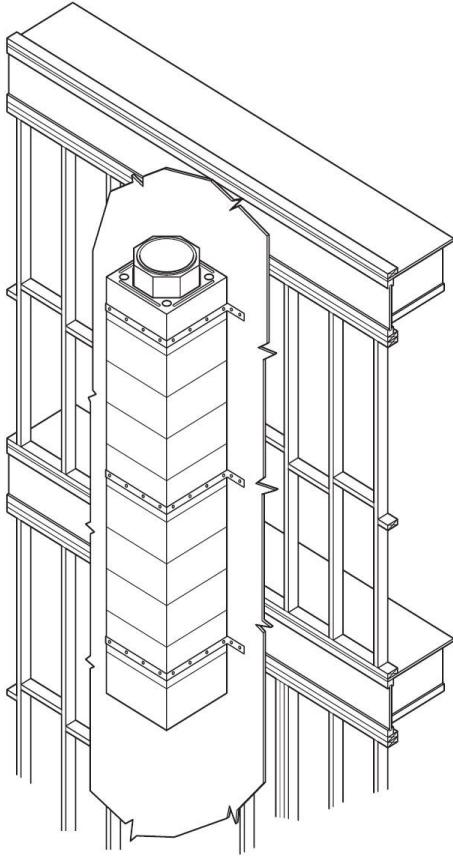

FIGURE 44
Next fold the strap around the three exposed sides of the outer casing. Connect the strap to each of the three outer casing faces with two (2) one and one-half inch (1-1/2") long masonry anchors, such as "Tapcon" or "Titen" screws. Fasten the strap back to the structural wall with two three-inch (3") # 8 (minimum) wood screws or masonry screws, as appropriate. **(Figure 44)**